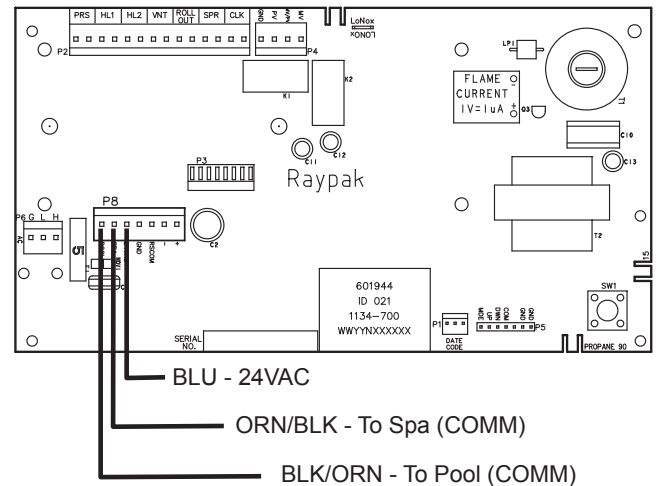

Figure 32. 3-Wire Remote Harness Installation on the P8 Connector, P-156 only
6. Install the "Remote Interface Harness" to the P8 connector and turn power "ON" to the heater. See **Figure 32**.